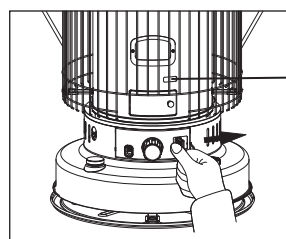

Fig.13
- Push the ignition lever (Fig.13) to bring the glowing igniter into contact with the wick. This will cause ignition to occur.